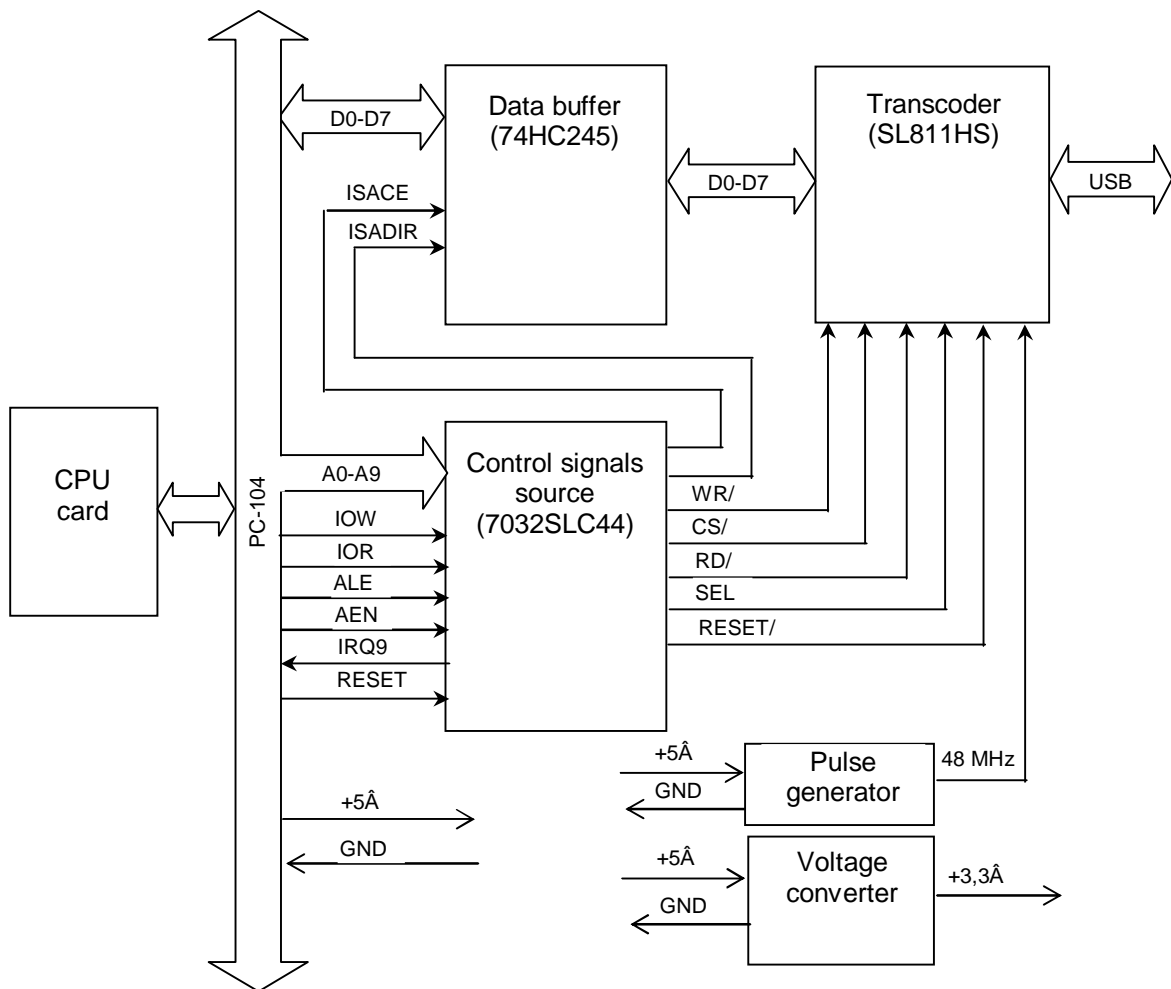

Figure 5.2 – The Structural Diagram of the **USB** Channel
5.3.3 The structural diagram of the **USB** channel is shown in Figure 5.2.